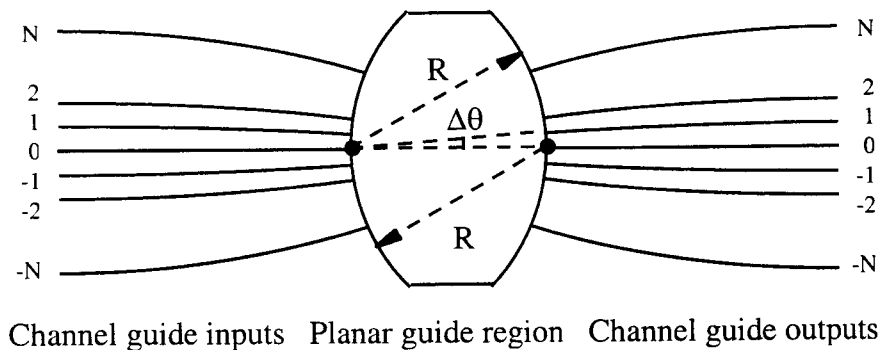

Figure 4.1
4. Figure 4.1 below shows an integrated optic *radiative star coupler*. The device has $(2N+1)$ channel guide inputs and outputs, linked by a central region formed from a planar guide whose boundaries are arcs with centres of curvature and radii as shown. The inputs and outputs lie on a regular spacing at the boundary of this region, so that the m^{th} output subtends an angle $m\Delta\theta$ at the centre of curvature.